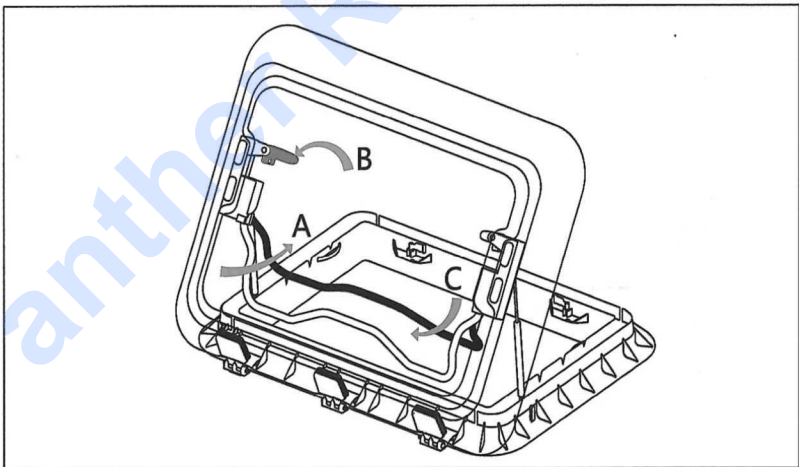

Figure 2
2. Pull the rod out (operation A) and push dome up (operation B) (see Figure 2).